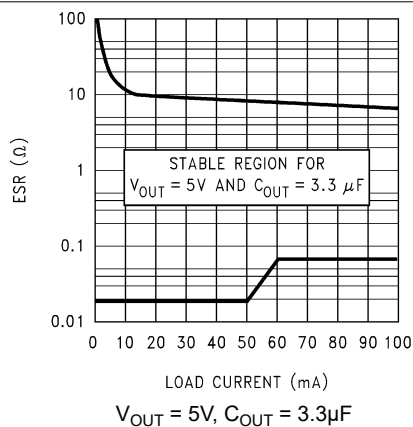
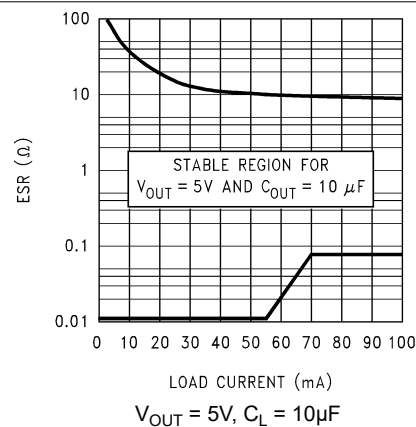
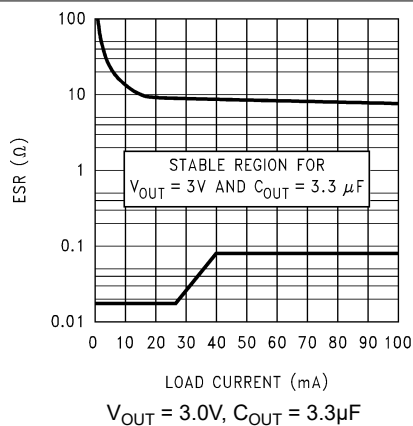

Figure 7-3. 5V, 3.3µF ESR Curves (Legacy Chip)
Figure 7-4. 5V, 10µF ESR Curves (Legacy Chip)
Figure 7-5. 3.0V, 3.3µF ESR Curves (Legacy Chip)
The output capacitor must meet both the requirement for minimum amount of capacitance and equivalent series resistance (ESR) value. Curves are provided that show the allowable ESR range as a function of load current for various output voltages and capacitor values (see Figure 7-3, Figure 7-4, Figure 7-5, and Figure 7-6).
- ESR range: See Figure 7-3, Figure 7-4, Figure 7-5, and Figure 7-6.